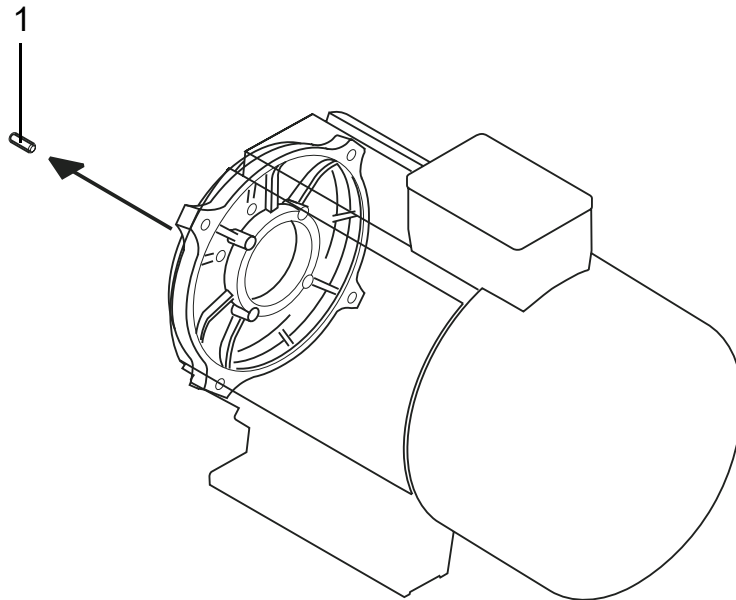

Fig. 22 Preparatory disassembly of flange mount (BG 160 model)
- ⇒ **Fig. 22, Preparatory disassembly of flange mount (BG 160 model), page 69**